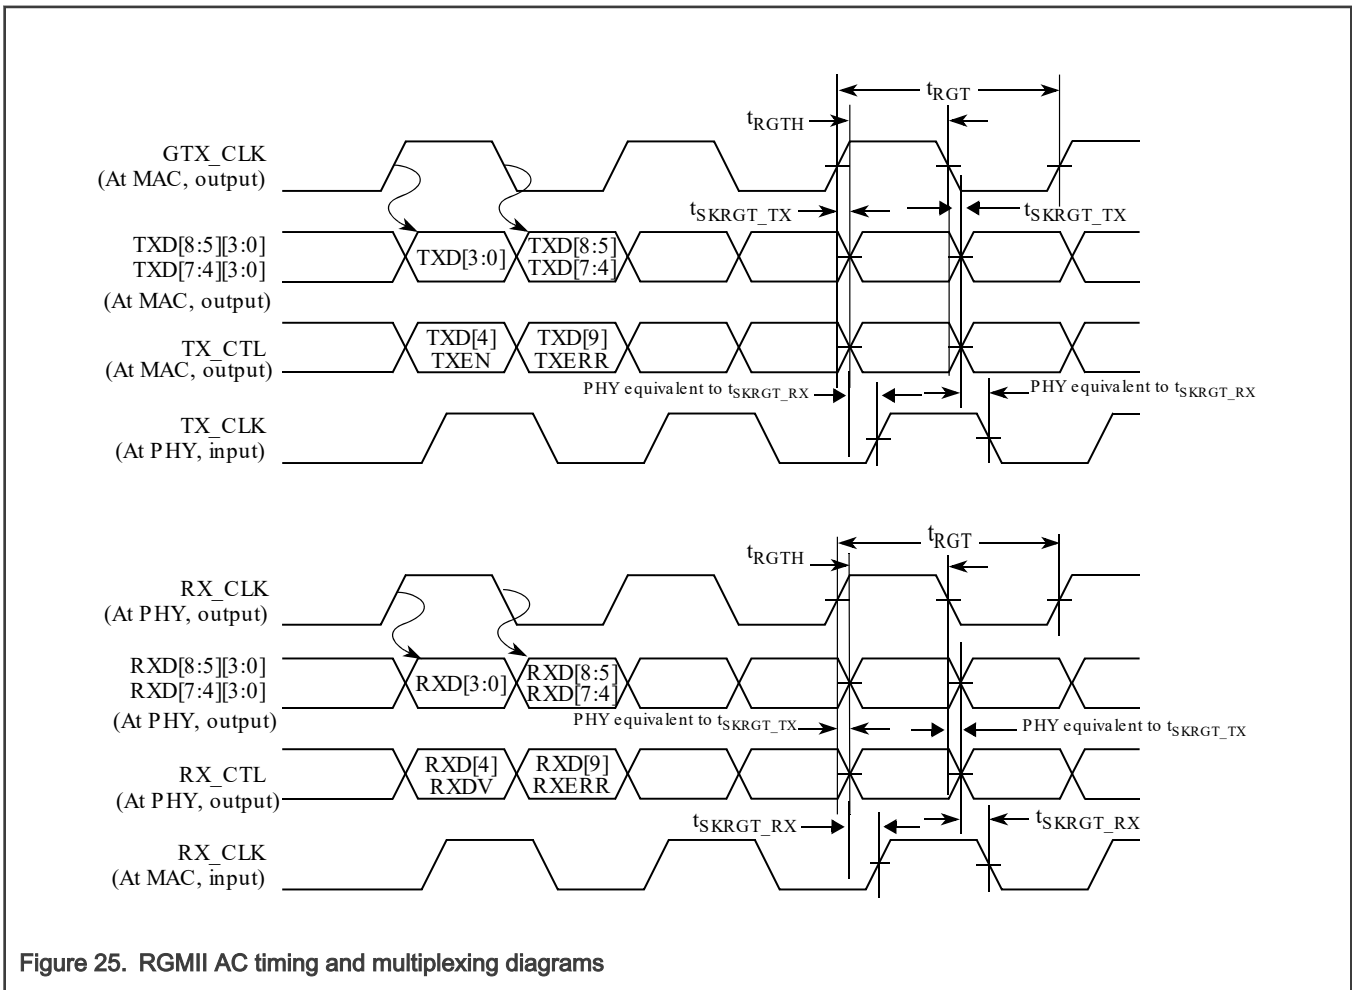

Figure 25. RGMII AC timing and multiplexing diagrams
<p>4. Duty cycle may be stretched/shrunk during speed changes or while transitioning to a received packet's clock domains as long as the minimum duty cycle is not violated and stretching occurs for no more than three t_{RGT} of the lowest speed transitioned between.</p> <p>5. Applies to inputs and outputs.</p> <p>6. The system/board must be designed to ensure this input requirement to the chip is achieved. Proper device operation is guaranteed for inputs meeting this requirement by design, simulation, characterization, or functional testing.</p> <p>7. In general, the clock reference symbol representation for this section is based on the symbols RGT to represent RGMII timing. Note that the notation for rise (R) and fall (F) times follows the clock symbol that is being represented. For symbols representing skews, the subscript is skew (SK) followed by the clock that is being skewed (RGT).</p> <p>8. See Figure 25.</p>